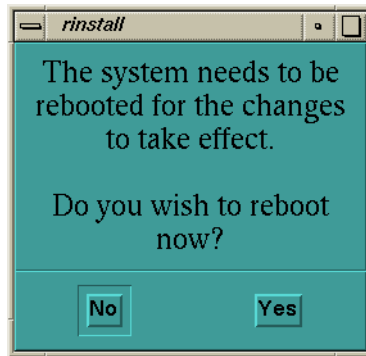

Figure 2-2 Reboot Screen
- 1.) When the loading process and configuration changes are complete, the system displays a prompt to reboot. Click on YES. (See Figure 2-2.)